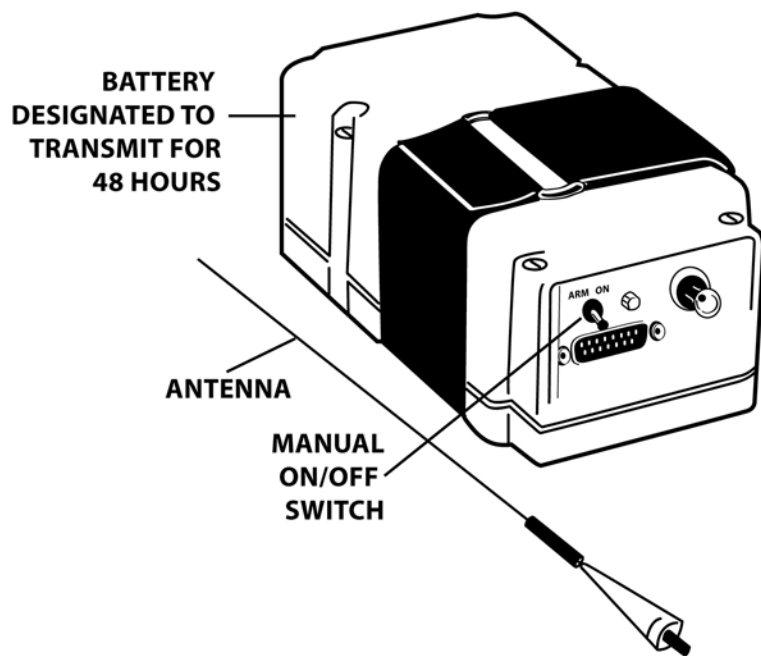

Figure 2
- Aviators and mariners in distress use an ELT (Fig. 2, pg. 27) or EPIRB to transmit an emergency signal to the SARSAT and/or COSPAS satellites.